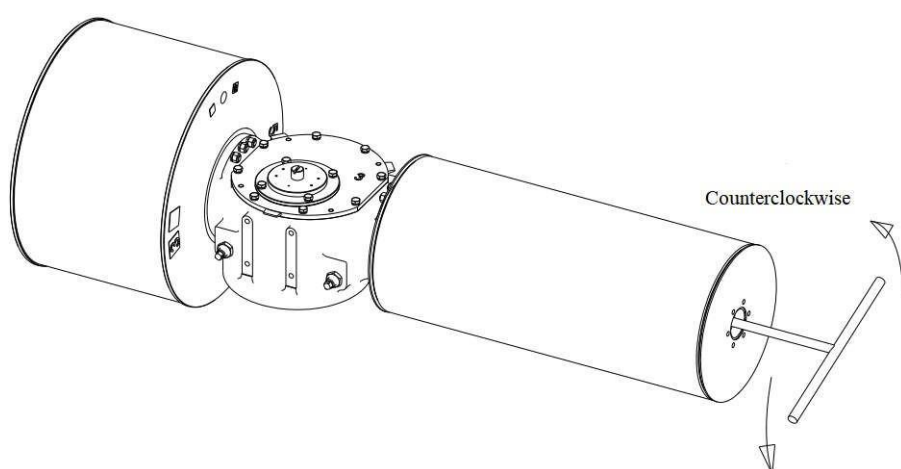

Figure 7
- 5) Use the special tool provided by the factory to extend into the spring module and insert into the end of the spring rod, see Figure 7; this is a female socket hex head the tool is removing
- 6) Rotate the special tool counterclockwise in the direction shown in Figure 7 to completely disengage the spring rod from the transmission joint. Refer to Table 6 for the number of rotations;